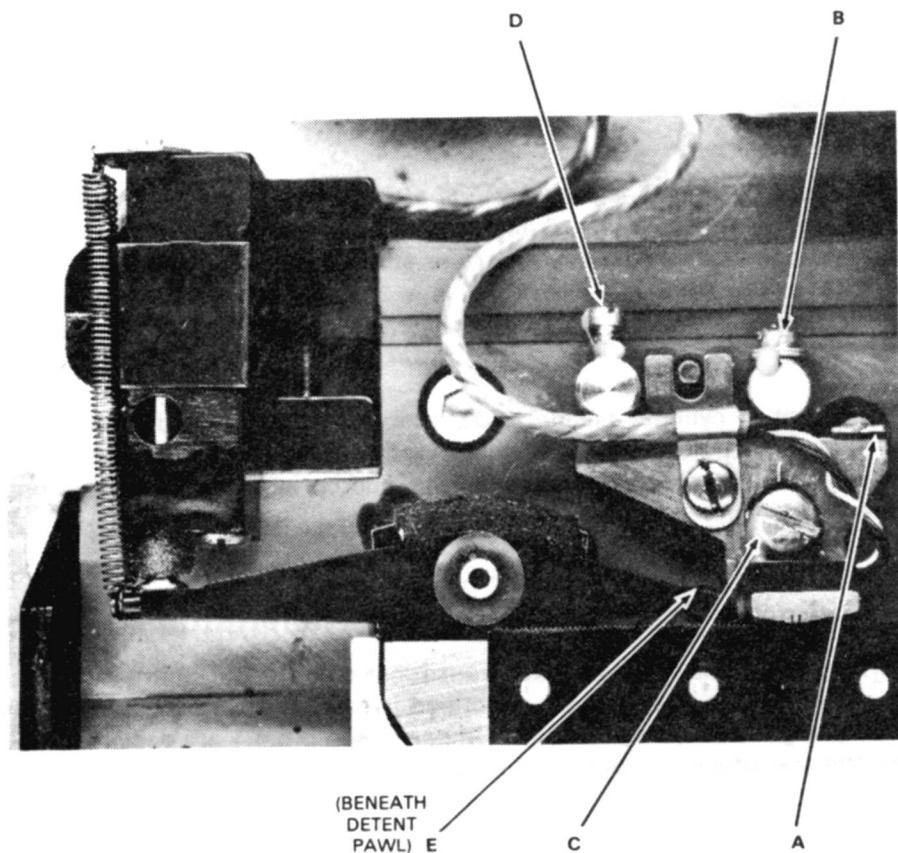

FIGURE 5-7. CYLINDER TRANSDUCER ADJUSTMENT DETAILS
2. With the blade of a beryllium screwdriver set against the back of the leaf spring (A in Figure 5-7), tap the handle of the screwdriver lightly until the amplitude increases the necessary amount. This technique is capable of increasing the amplitude by about 50 mv. If the deficiency is greater than that, turn the drawback screw (B in Figure 5-7) counterclockwise a quarter turn. If necessary, tap the leaf spring again.
2. Turn screw D (Figure 5-7) clockwise to reduce the detented amplitude by 10%. If the amplitude starts to increase, keep turning clockwise to raise the amplitude to the crest, then down to within 70% to 90% of the crest. It is advisable to stop at 90% on the first try to allow readjustment later, if additional specifications of amplitude and crest ratio are not met.
1. Connect Channel A of the oscilloscope to pin 8 of B06. Loosen the transducer hold-down screw (C in Figure 5-7). Turn the drawback screw (B) until the face of the transducer is approximately even with the teeth of the detent pawl. Turn pivot screw (D) counterclockwise until it is away from the transducer base. With the blade of a beryllium screwdriver, push on the leaf spring (A) until the base of the transducer is against the dowel pin (E) on the carriage way.
3. Retract the heads. Snug down the transducer hold-down screw (C) to ensure that the transducer is flush with the surface of the carriage way. The transducer should still be against the dowel pin (E).
18. If Compare is to the right of the 3.1-cm graticule, the transducer must be pivoted counterclockwise. Turn pivot screw (D) in Figure 5-7 slowly clockwise until Compare goes high at 2.8 cm.